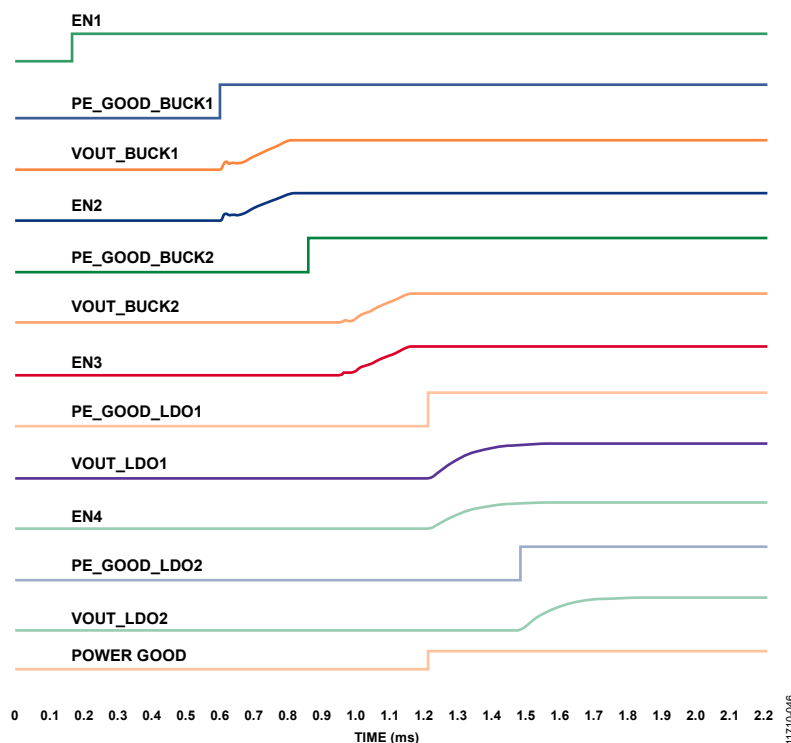

Figure 46. Regulator Sequencing on the ADP5134, Shutdown Control and Precision Enable Thresholds with PG Monitoring BUCK1 Only
A power-good output is available at Pin 6 (PG) to monitor the output voltage of any combination of the four regulators. The PG output can also be factory programmed to monitor a specific regulator channel, such as BUCK1, as shown in Figure 46. The PG pin can connect to a pull-up current to drive external regulators or other circuits. In this configuration, the PG pin goes high when the channels monitored are in regulation and goes low when the output voltage falls below 90% of the nominal V_{VOUTX} level. The PG pin can also drive an LED for fault monitoring. For example, in this configuration, a red LED is biased, and current sinks into the PG pin when the output voltage falls below 90% of the nominal V_{VOUTX} level. This turns the LED on, and, when the output voltage is in regulation, turns it off.
Figure 46 shows the activation timings for the ADP5134 when regulators are in sequence, VOUT1 controlling EN2, VOUT2 controlling EN3, and VOUT3 controlling EN4. Also shown is the power-good signal monitoring BUCK1 only.